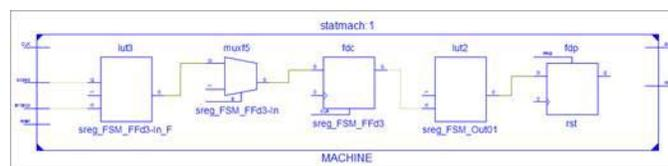

Figure 5-19: Upper Hierarchical Level
- Press the Pop button to cross hierarchy in a bottom-up direction as shown in Figure 5-19.